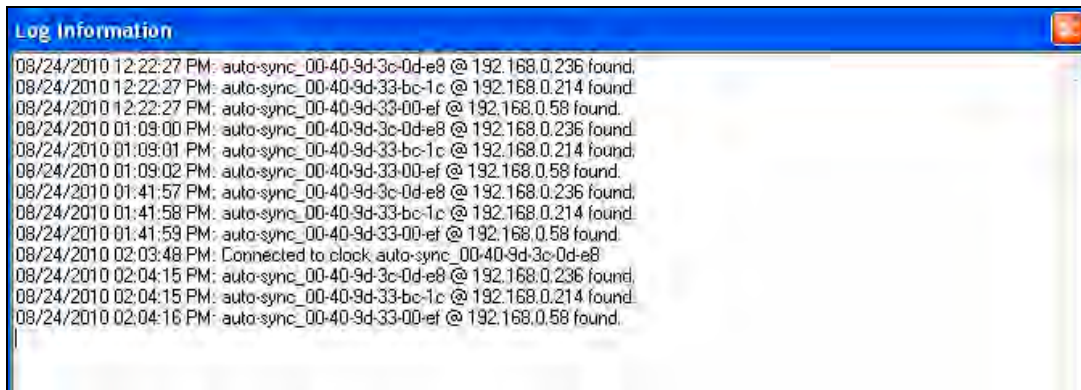

Figure 5-18. View Utility Log Information.
- **Log** – Use this function to view a continuous log of Auto-Sync Utility functions (see *Figure 5-18*) from the **auto-sync\_Util.log** file. The log is arranged in ascending order by date.